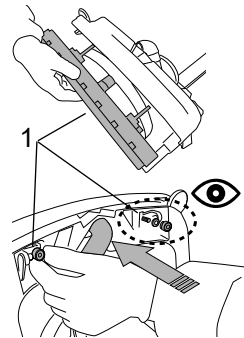

Fig.2A
- Install the front squeegee (fig. 2A, ref. 1).